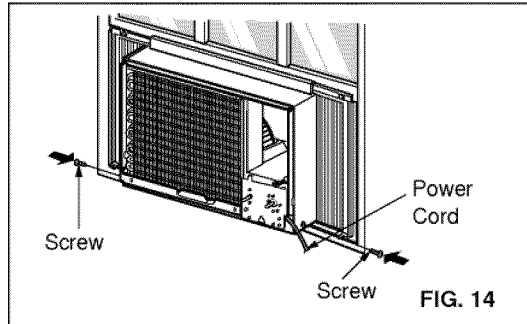

FIG. 14
**12** Slide the chassis into the cabinet. (FIG. 14)